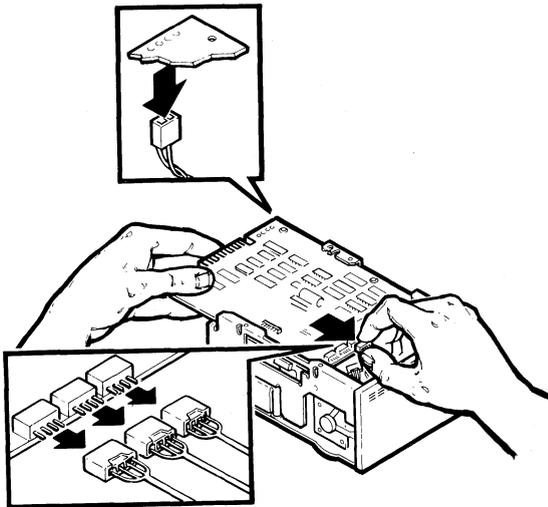

Figure 6-8 RD51 Disk Drive Connectors P6, P7, P8, and P4
4. Disconnect connectors P6, P7, and P8 from the front of the read/write printed circuit board (Figure 6-8).